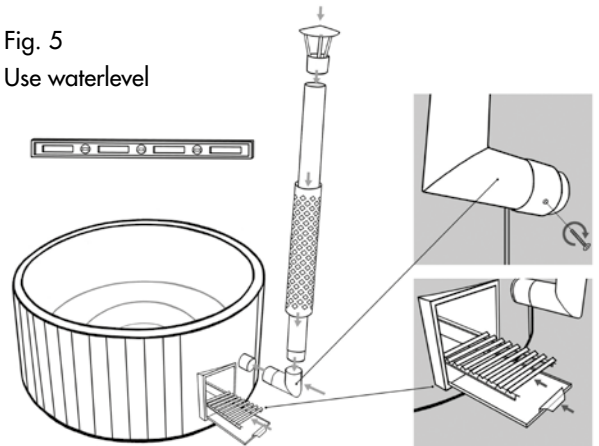

Fig. 6
- 18 Attach the boiler door (see Fig. 6).